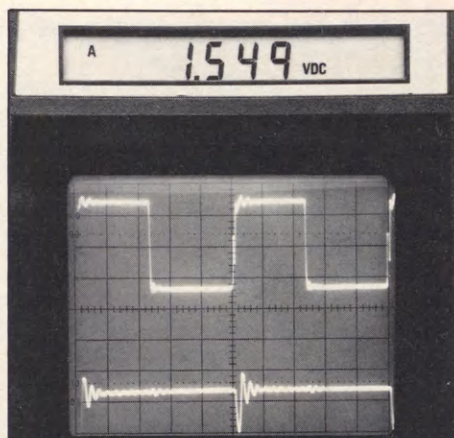

Fig. 3: The DC level of a waveform is displayed simultaneously with the waveform.
- Apply an AC signal riding on a DC level (use a signal generator with a DC offset control), and the students will see the waveform shift from the ground reference point (use DC input coupling for the scope display), plus they'll also immediately see the corresponding value of the DC level on the digital display (Figure 3).